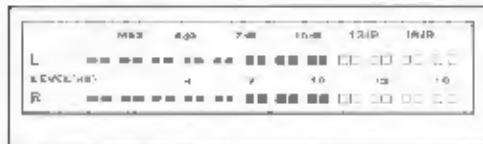

Fig. 3
2. Depress the processor switch (ON).
3. Rotate the input level control and set it so that the indication on the dynamic expansion meter is brought to its widest. For instance, when the dynamic expansion selector is set to the '10' position, adjust so that the display indicates up to 10 when a high input signal is fed in (See Fig. 3).
Say, for instance, the difference between the left and right levels is 2dB. This is expanded to 4dB or 6dB. This in turn translates into a change in the ambience of the sound as heard by the listener. With a music source arranged like that in Fig. 3, an interesting effect is obtained whereby the position of the vocalist at the center moves to the left and right along with the fluctuations in the difference between the left channel (bass) and right channel (piano).